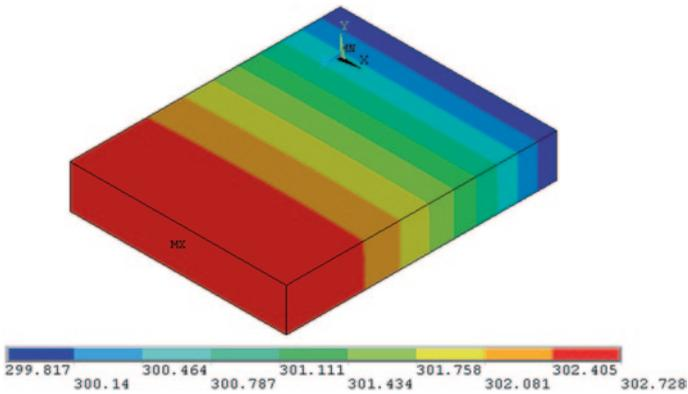

Fig. 9.61 Contour plot of temperature at substep 22 (time = 3600 s)
- Repeat this procedure for substep 22 (last substep). Corresponding contour plot is shown in Fig. 9.61.